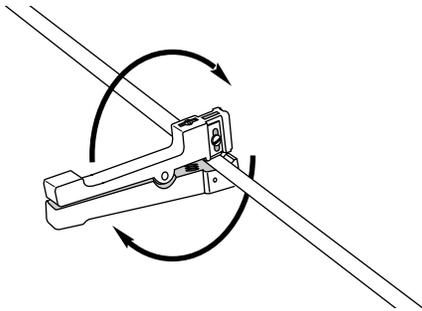

Figure 11
- c) Use your other hand to rotate the tool around the tube two to three complete turns to score it (Figure 11). Remove the tool from the central tube.